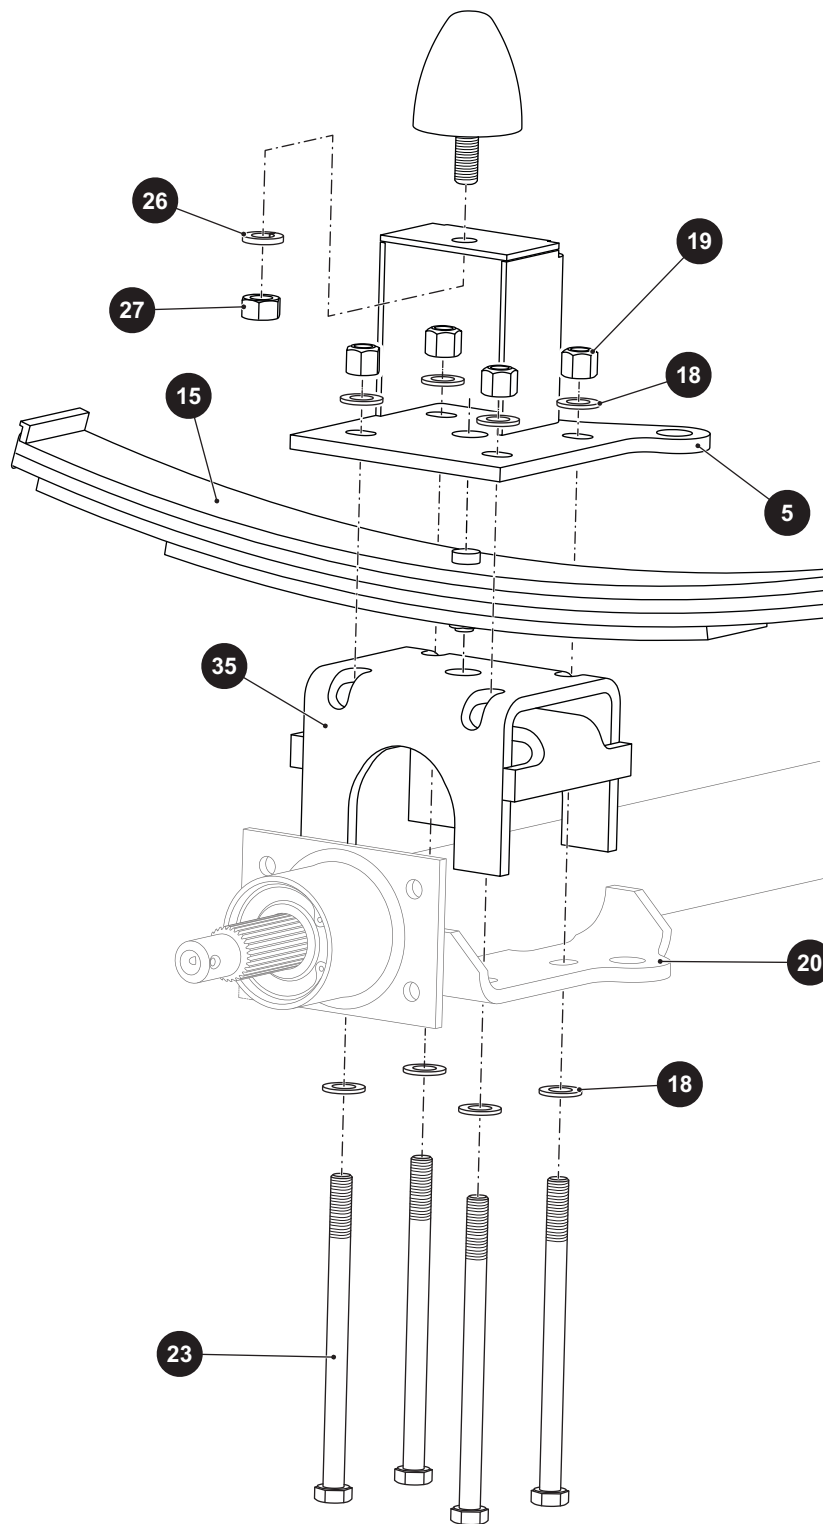
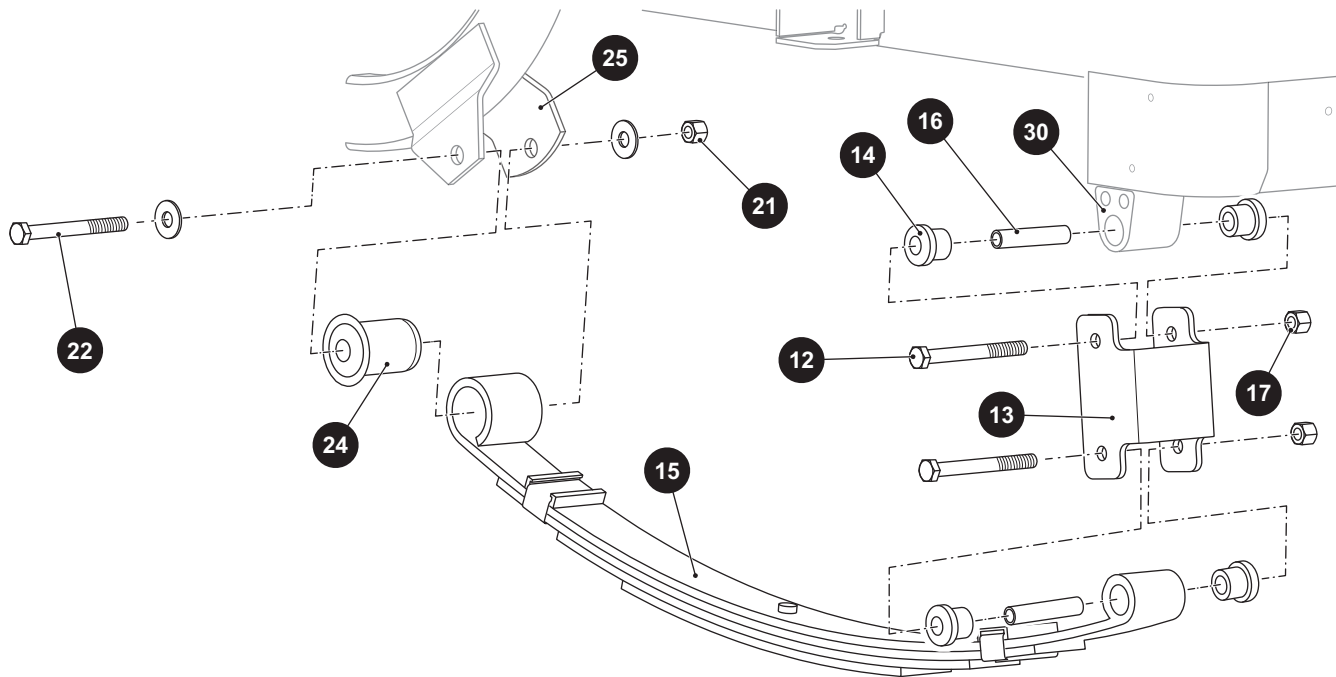

Figure 2 Spring Stack-up
Figure 3 Spring to Frame
3. Remove the lock nuts (19) and upper washers (18) from the bolts (23) and remove the bolts and lower washers from the axle (20), lift bracket (35), and spring plate (5) assembly (Ref. Figure 2) (Ref. Figure 3).
4. Place the floor jack under the rear frame of the vehicle and raise it enough to take pressure from the leaf spring (15) off of the axle assembly. Support the vehicle frame with another set of jack stands.
5. Remove the bolts (12) and lock nuts (17) from the shackle (13) at the rear of the frame (30).
6. Remove the bushings (14) and spacers (16).
7. Remove the lock nut (21), washers (26) and bolt (22) from the forward leaf spring mounting bracket (25).
8. The leaf spring (15) can now be removed from the vehicle.
2. Position the spring over the top of the axle and align the pin on the leaf spring (15) with the holes in the leaf spring mounting plate (5) and lift bracket (35).
3. Assemble the axle (20), lift bracket (35), spring (15) and spring plate (5) stack-up and loosely secure it
using the bolts (23), washers (18), and new lock nuts (19) (Ref. Figure 2).
4. Install the bushings (24) in the forward end of the leaf spring (15) and place the leaf spring in the forward mounting bracket (Ref. Figure 3).
5. Install the bolt (22), washer (26) and new lock nut (21) to secure the forward end of the leaf spring (15) in the bracket (25).
6. Install one set bushings (14) and a spacer (16) in the rear frame mounting holes (30).
7. Position the shackle (13) over the bushings and install a bolt (12) and a new lock nut (14) in the upper bolt hole.
8. Install another pair of bushings (14) and a spacer (16) in the leaf spring (15).
9. Position the leaf spring between the shackle plates (14) and install the bolt (12) and a new lock nut (17).